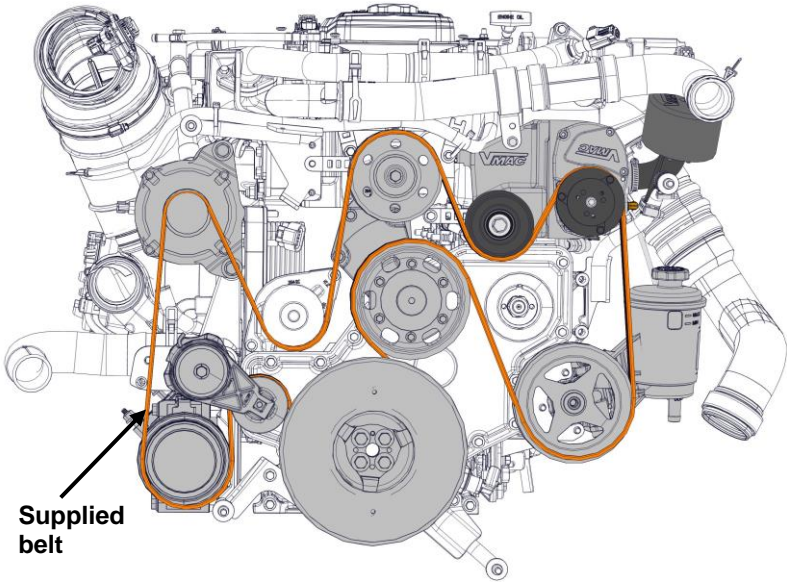

**Figure 3.13 – Installing air filter**
- Install the supplied intake hose onto the compressor inlet and onto the spigot on the bottom of the air filter housing. Mount the air filter assembly to the bracket with the two nuts, and secure the hose with two supplied hose clamps (Figure 3.13).